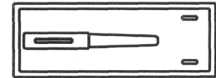
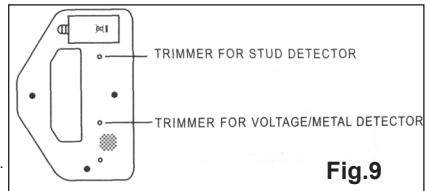

Fig.8
Fig.9
- 3.4.1.3 Using the screwdriver, which is located under the battery cover, see Fig.8, turn the Metal/Voltage detection trimmer, Refer to Fig.9, as follows: